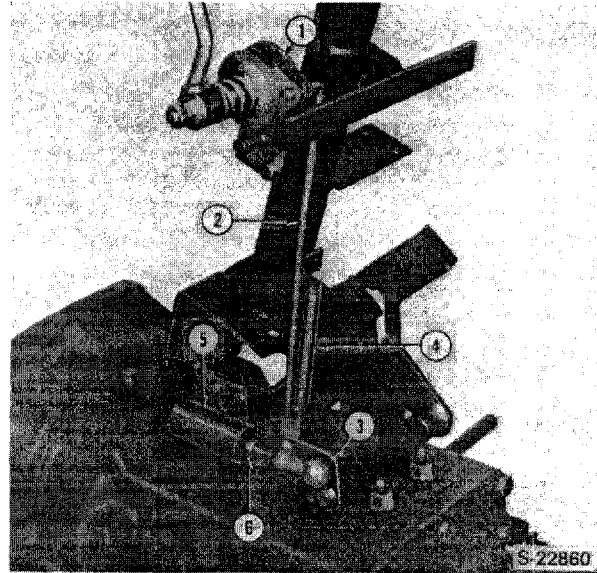

Figure 99
4. Remove the spring (4), Figure 99, from the shift arm (3), and brake control rod (2), Figure 99.
5. Remove the cotter pin and washer and separate the control rod (2), from the shift arm (3), Figure 99.
6. Remove the brake mounting bolts from the steering column and remove the speed control lever brake assembly as an assembly, Figure 99.
8. Remove the neutral control spring assembly (5), Figure 99, and remove the shift arm as an assembly.
1. Loosen the locknut (6), Figure 99.
2. Start the engine and shift the range lever into low (L) position.